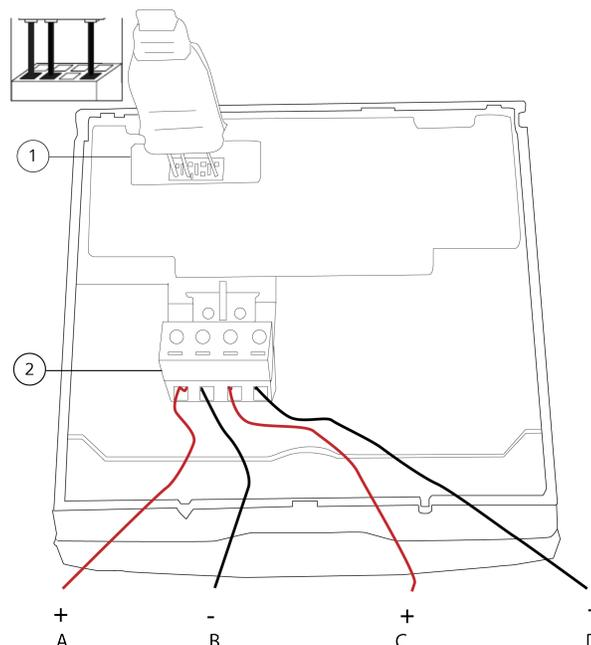

Figure 2: Installation
5. Connect the loop wiring to the push-fit connector, see Figure 2.